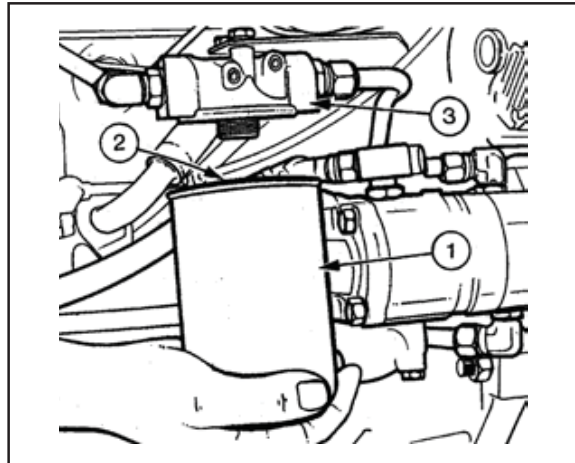

Fig.109
1. Unscrew and discard the canister (1, Fig 109)
2. Smear a few drops of clean hydraulic oil on the sealing ring (2) of a new canister.
3. Screw the new canister on until the sealing ring just contacts the filter head (3), then tighten a further half-turn by hand only. **DO NOT** overtighten.